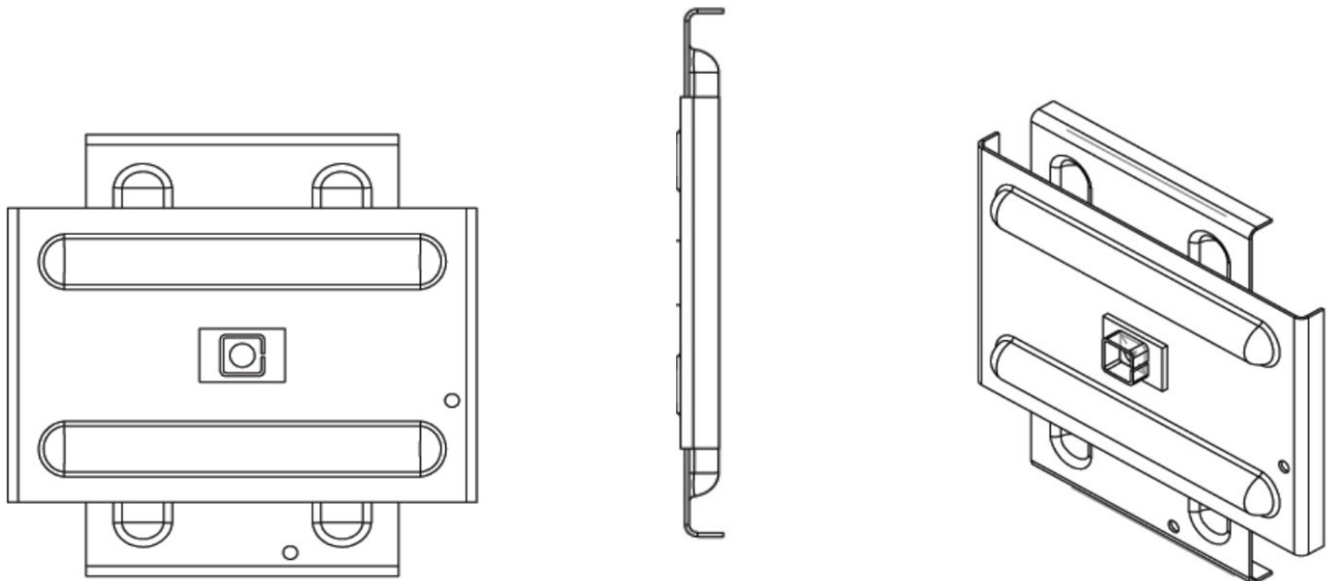

FIGURE 4—EXTERIOR SOIL ANCHOR
3.4 Exterior Soil Anchor: The exterior soil anchor is part of an assembly made from two (2) pieces of formed steel plate. See Table 2 for specifications. The exterior soil plate is hot-dipped galvanized in accordance with ASTM A123M and as illustrated in Figure 4.